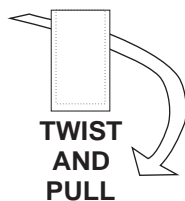

fig. 1
- Remove the protective cap by gently twisting and pulling it off the probe body (fig.1).